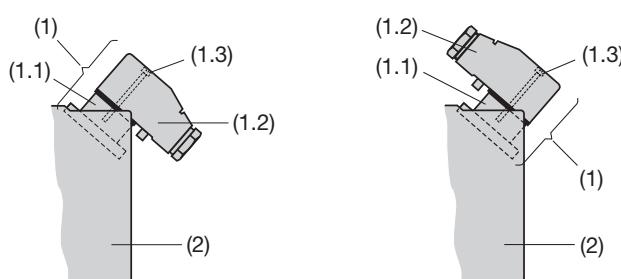

Fig. 4. Rear (2) with plug-in connector (1).
The **plug-in connector** (1) consists of a socket (1.1) mounted on the rear (2) of the transmitter and plug (1.2) on the end of the connecting cable (screw gland PG 11) and 7 screw terminals (wire gauges up to max. 1 mm²). The socket can be mounted so that the cable is routed to either the rear (Fig. 4, left) or the front (Fig. 4, right).